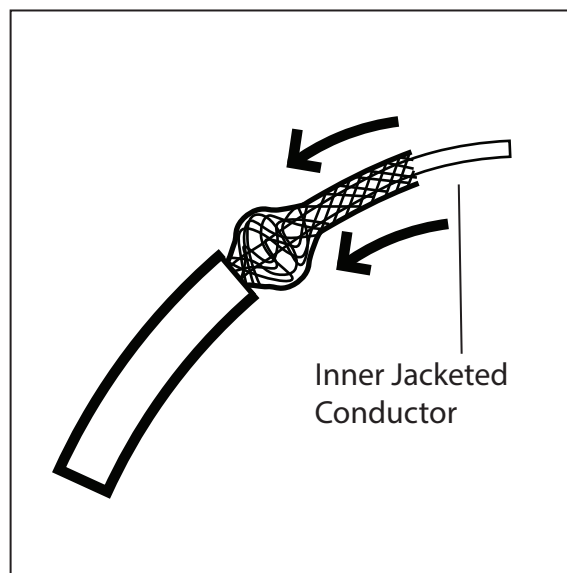

Fig. 2
3. Slide the outer braided conductor back to create a bulge and reveal the inner jacketed conductor (Fig. 2).